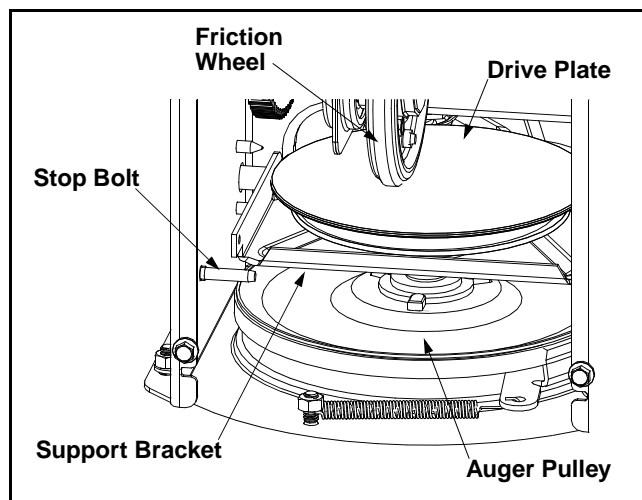

Figure 21
- Back out the stop bolt until the support bracket rests on the auger pulley. See Figure 21.
NOTE: The support bracket must rest on the stop bolt after the new belt has been assembled. See Figure 21.